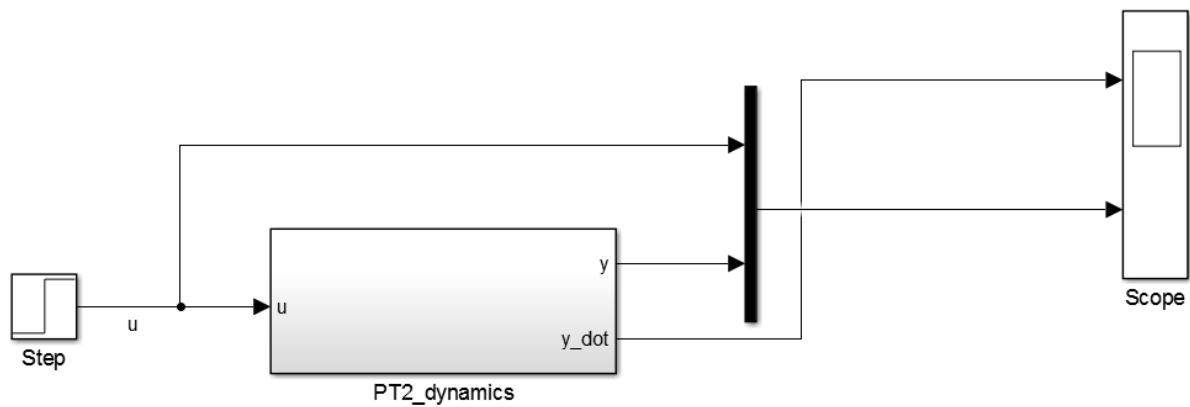

Figure 1-7: Final form of model PT2.slx
(12) Finally, the blocks' sizes and positions can be adjusted by dragging&dropping them to obtain the diagram of Figure 1-7.
(13) Save your model and run the file `call_test_ex1.p` (right-click and choose 'Run'), if you get the message